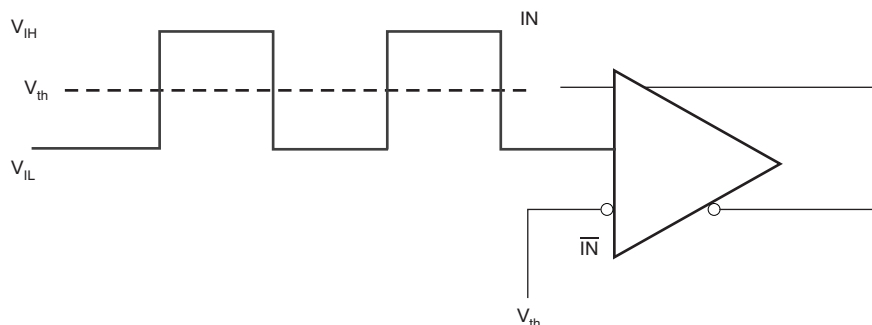
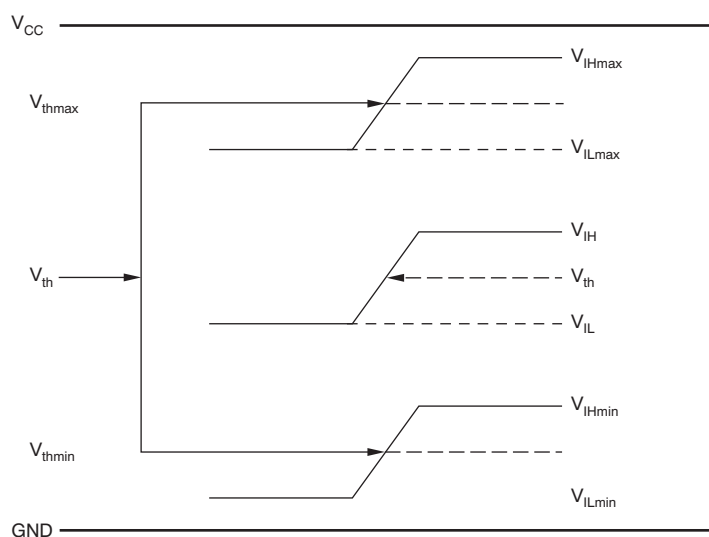
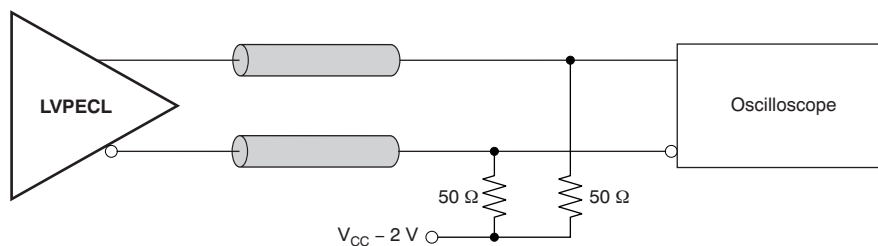
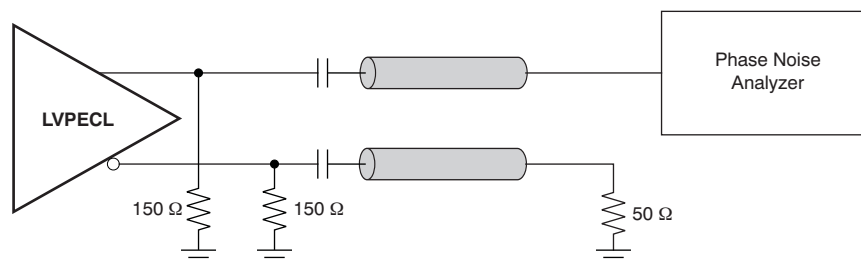

Figure 3. DC-Coupled LVCMOS Input During Device Test
Figure 4. V_{th} Variation over LVCMOS Levels
Figure 8. LVPECL Output DC Configuration During Device Test
Figure 9. LVPECL Output AC Configuration During Device Test
(1) Figure 3 and Figure 4 show dc test setup.
(1) Figure 8 and Figure 9 show dc and ac test setup.
(2) Internally generated bias voltage (V_{AC_REF}) is for 3.3-V operation only. It is recommended to apply externally generated bias voltage for $V_{CC} < 3.0\text{ V}$.
This section describes the function of each block for the CDCLVP1204. Figure 3 through Figure 9 illustrate how the device should be setup for a variety of test configurations.